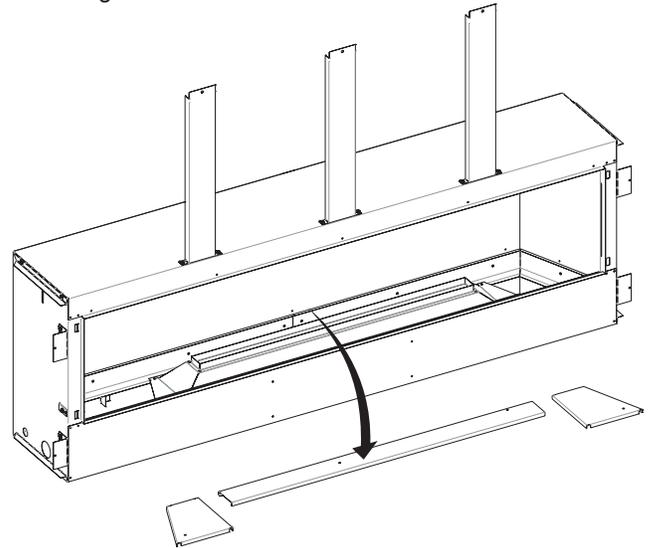

Figure 2
3. If installed, remove the side and rear glass support screens. See Figure 2.